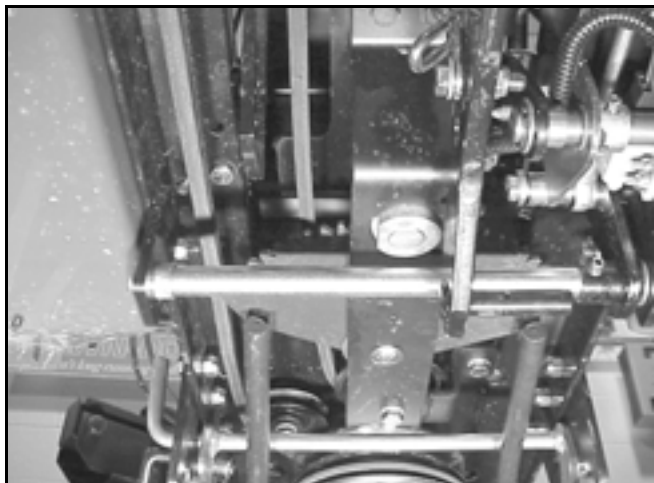

Figure 156
7. The belt then goes forward over the hydro pivot shaft and steering sector (Figure 156).